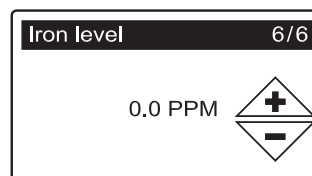

FIG. 13
11. **IRON LEVEL** Press the UP (▲) or DOWN (▼) buttons to set the value for iron in your water (See Figure 13). The conversion factor is 3 grains per 1 ppm of clear water iron.